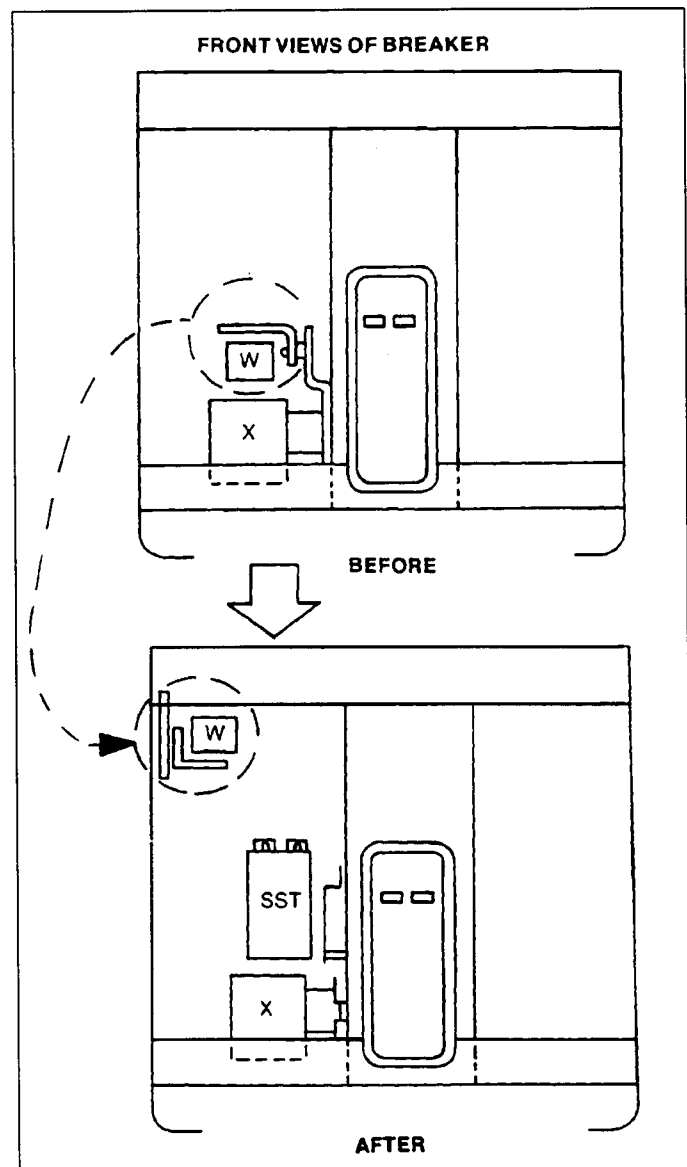

Fig. 3-1. Relocating W Relay and Remounting X Relay
- a. Remove the W Relay and install the mounting bracket supplied with the conversion kit to the upper left side of the front frame. See Fig. 3-1.
- b. Remove the X Relay and its mounting bracket. Use the new bracket supplied with the conversion kit to remount the X Relay in its existing position. See Fig. 3-1 and 3-2.